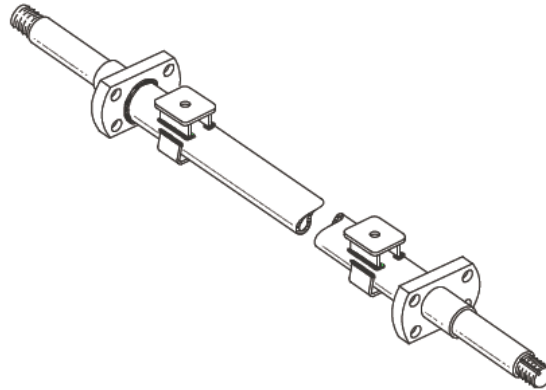

Figure 2 Axle Assembly
| Figure 2 Axle Assembly | 5 | Figure 9 Park Brake Assembly - Exploded View | 21 |
14. **Description.** The axle fitted to this trailer is a tubular steel, beam assembly, manufactured by Engineered Transport Equipment. The axle is fitted with 8-inch flange type wheel hubs carried by tapered roller bearings (Figure 2). Each hub assembly is fitted with 299 mm × 10.5 mm disc brakes on both road wheels and an integral single expanding shoe, drum type parking brake fitted to each road wheel.